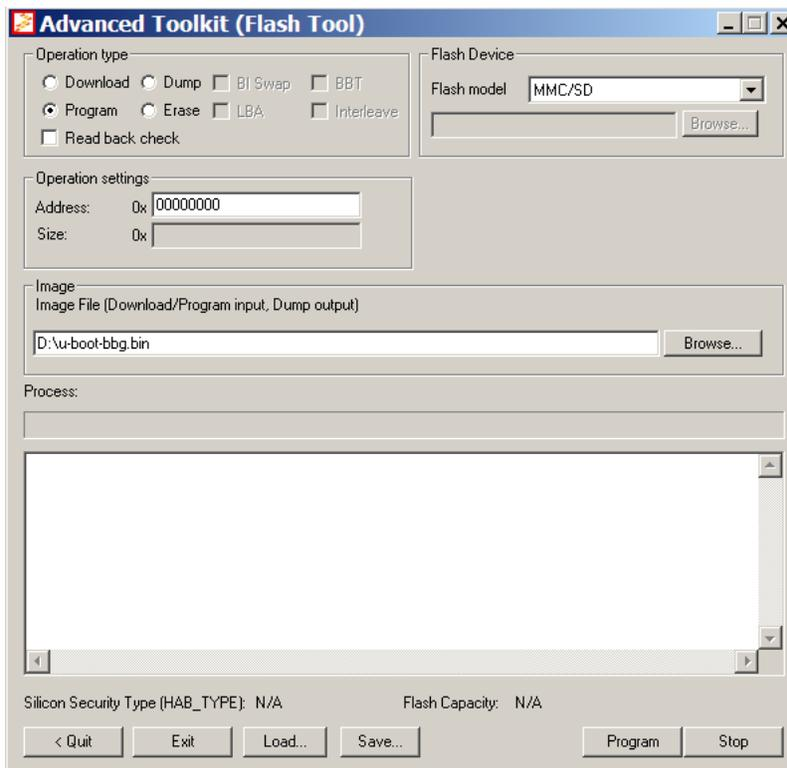
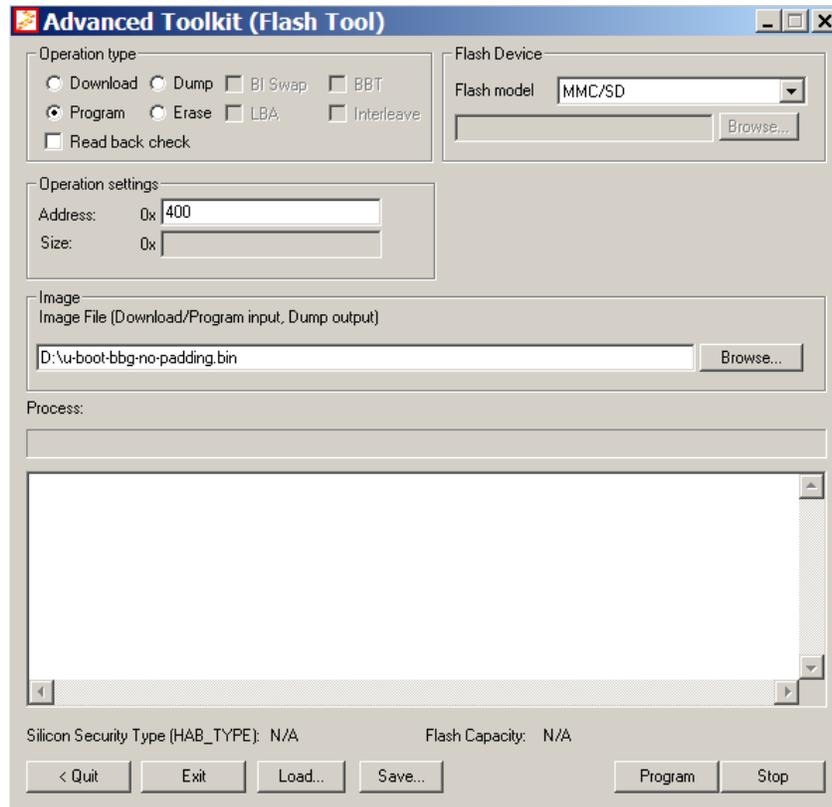

Figure 5-2 Programming U-Boot image to MMC/SD Flash
Figure 5-3 Programming U-Boot, no padding, to MMC/SD Flash
4. Program U-Boot by selecting options as shown in Figure 5-2 if no MBR is present in the MMC/SD. If MBR is already created in the card, which means the rootfs has been programmed to MMC/SD, program the no-padding U-Boot binary with the offset 0x400 as shown in Figure 5-3. Verify the selection before upgrading the bootloader; otherwise, the rootfs must be re-programmed if MBR is broken.